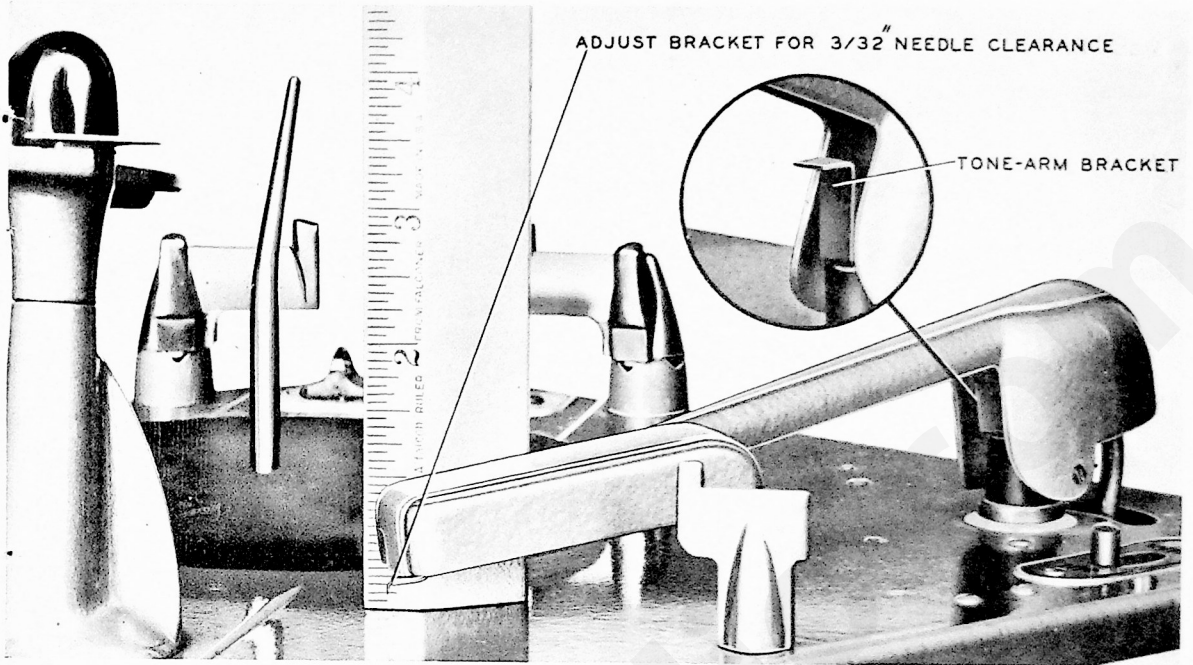

Figure 6. TONE-ARM BASE-PLATE CLEARANCE
**TONE-ARM BASE-PLATE CLEARANCE** — Without a record on the turntable and the changer out of cycle (playing position), the needle point should clear the changer base plate by  $\frac{3}{32}$ ". To adjust, shape the tone-arm bracket, when necessary, as shown in figure 6.